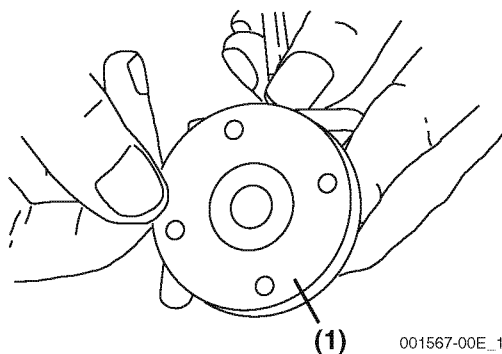

Figure 6-11
Parts of the diaphragm (Figure 6-11, (1)) that are repeatedly heated will become thinner or deteriorate over a long period of time. Check the diaphragm and replace if necessary.